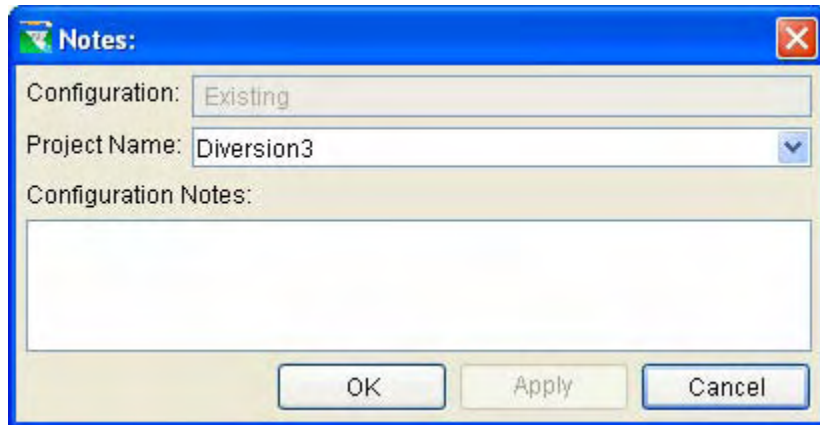

Figure 6.16 Configuration Notes for Diversion
2. From the shortcut menu, select **Configuration Notes**. This command opens a dialog box (Figure 6.16) for entering text information about a diversion that is specific to the configuration.